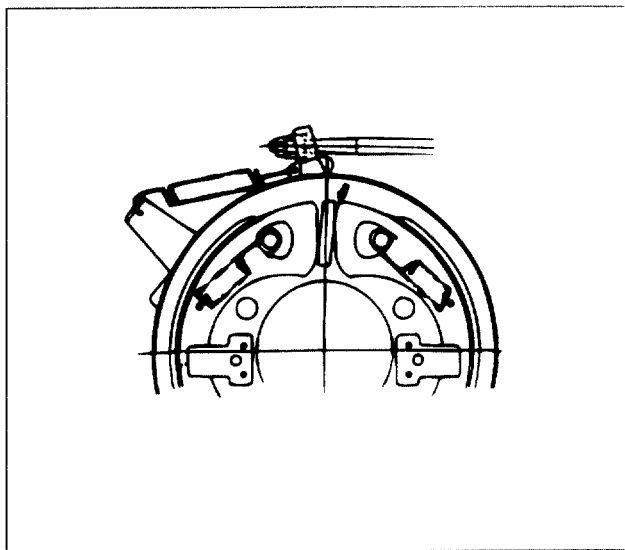

Figure 7 – Adjusting the Cable
3. Loosen the jam nut and adjusting nut (figure 7).